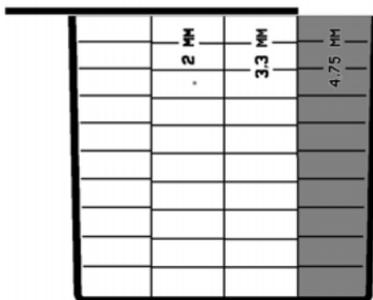

Figure 6.5 - grain sizer filling
- Fill the compartment whose sieve has the widest mesh and keep the other compartments closed with the lid (Figure 6.5);
- Close the grain sizer with the cover and turn it 90° (Figure 6.5);